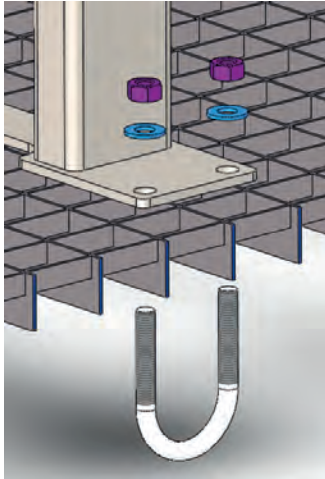

Fig. 4.4.3
- Mount the load securing support in the required position on the grid using the U shaped bolt, washers and nuts supplied (Fig. 4.4.3).